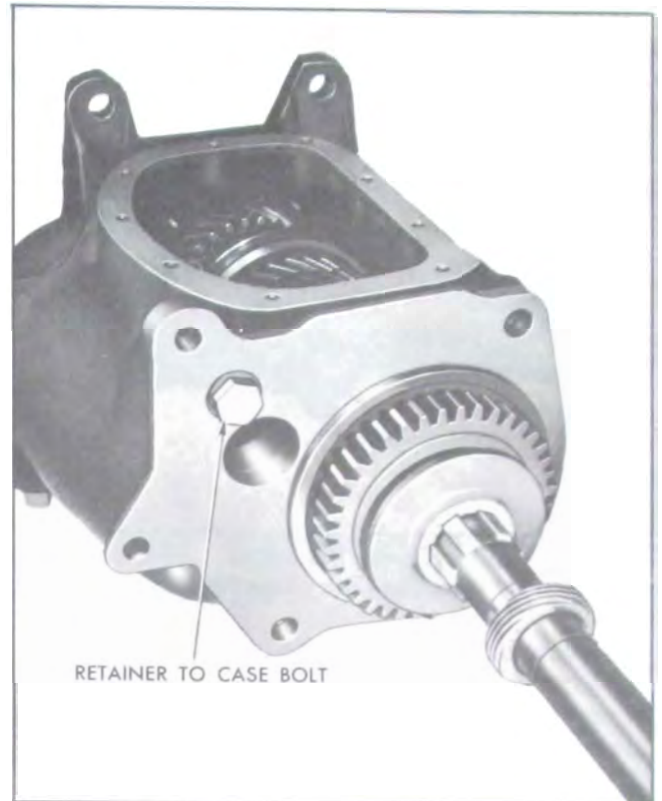

Figure 4-67—Bearing Retainer to Transmission Bolt
13. Install the self-locking bolt attaching rear bearing retainer to transmission case, (see fig. 4-67). Torque to 20 to 30 ft. lbs.